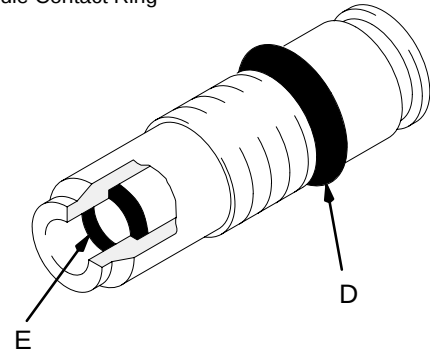

Fig 15
Remove the resistor stud. See *Air Cap/Nozzle/Resistor Stud Replacement*. Check the resistance between the black resistor stud contact ring (D) and the needle contact ring (E). Refer to Fig 15. You may have to press down on the contact ring (D) in several places to get a good reading.